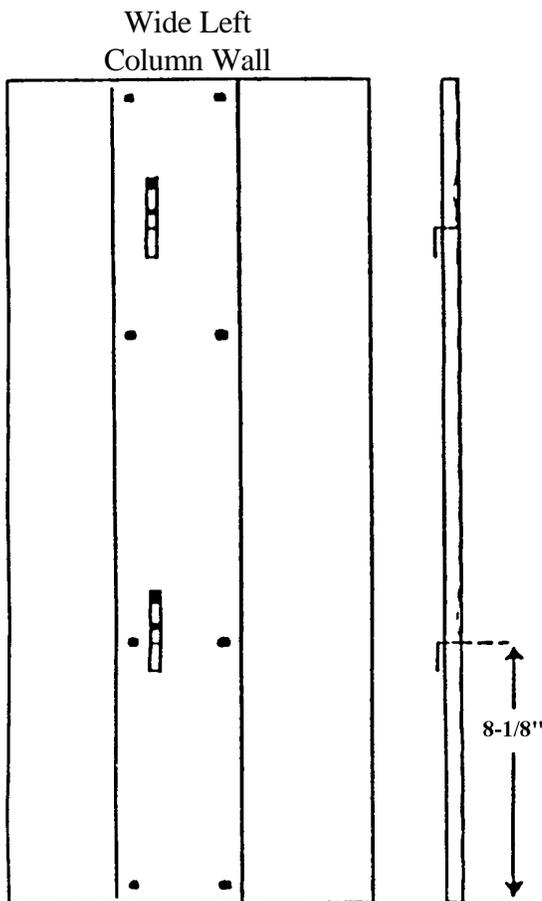

Figure 6
- A. See Figures 6 and 7 below for identification.